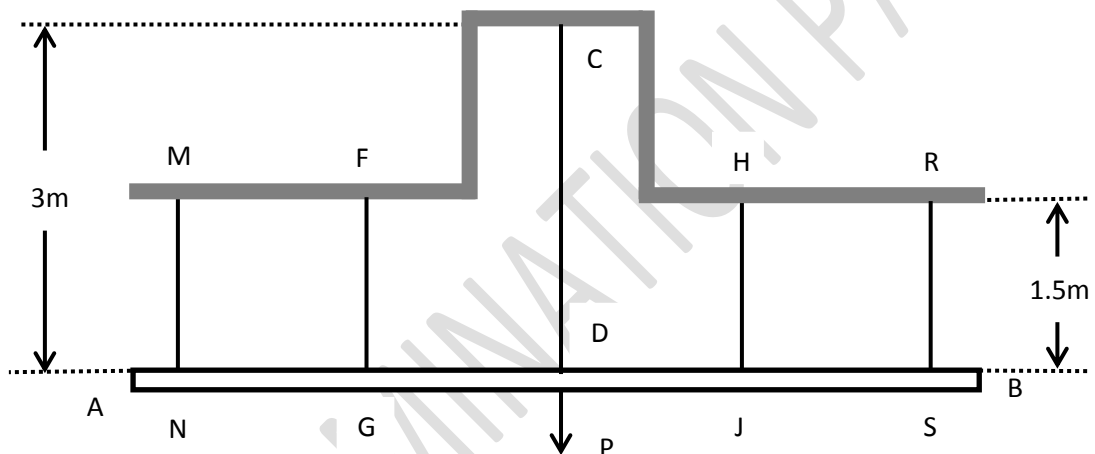

Figure Q4
The structure in Figure Q4 consists of a rigid beam AB and five rods placed symmetrically about line CD. A load P is applied to the beam as shown. The members are made of an elastic-perfectly plastic steel ($E = 210 \text{ GPa}$), and they each have a cross sectional area of 105 mm^2 . Rods CD, FG, and HJ have a yield point stress equal to $Y_1 = 550 \text{ MPa}$, and rods MN and RS have a yield point equal to $Y_2 = 270 \text{ MPa}$.
- Draw the free-body diagram for the structure show in figure Q4. (02 Marks)